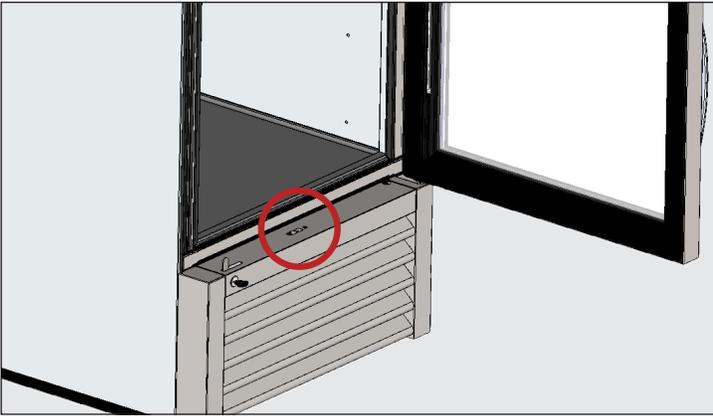

Fig. 1. Remove the top screw from the louver grill.
2. Remove the front louvered grill from the appliance. See fig. 1.